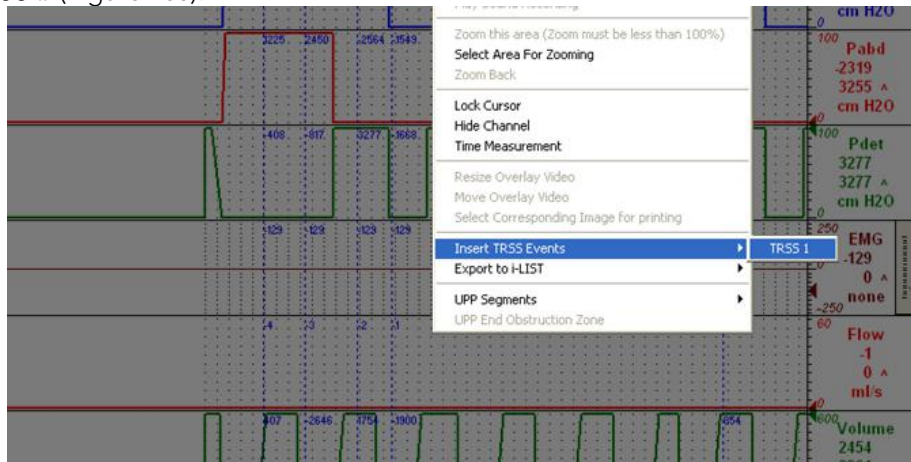

Figure 103: TRSS Events
2. Select the TRSS # (Figure 103).